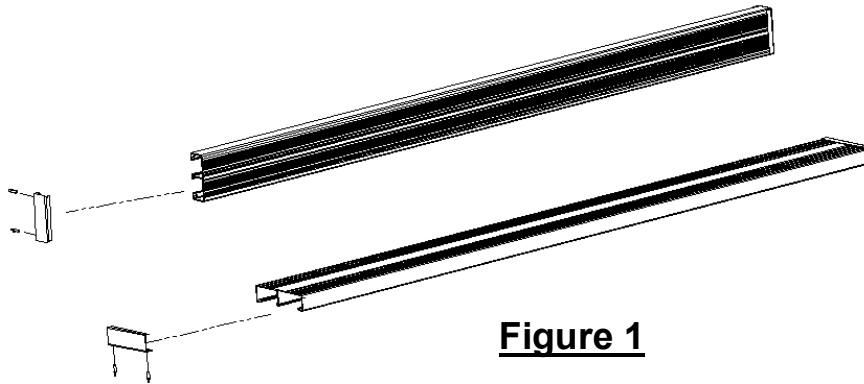

Figure 1
See Figure 1 for entrance/exit assembly(s). Screw master frame and half posts together using #10 x 1" screws. Note: Half posts are pre-drilled.
- A. Drill 3/16" diameter holes through 9 1/2" bench and 6" backrest using predrilled holes in end cap as guide, 2 per end cap. **See Figure 1**